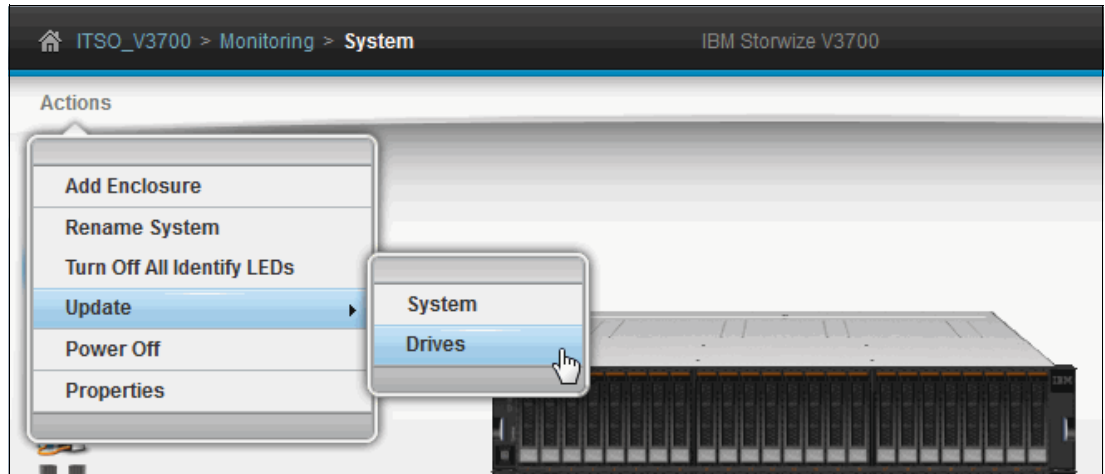

Figure 11-54 Upgrade all drives: System pane
- Figure 11-54 shows how to upgrade all drives using the Actions menu in the System pane. Select **Update** → **Drives**.